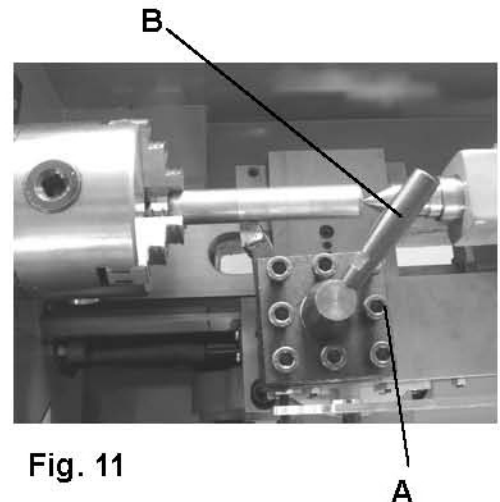

Fig. 11
When you are going to adjust the tool post position, you only need to loosen the lever shown in Fig.11 (B). After you have finished, be sure to tighten. If you are going to replace work cutter, you need to loosen the screws shown in Fig.11 (A).